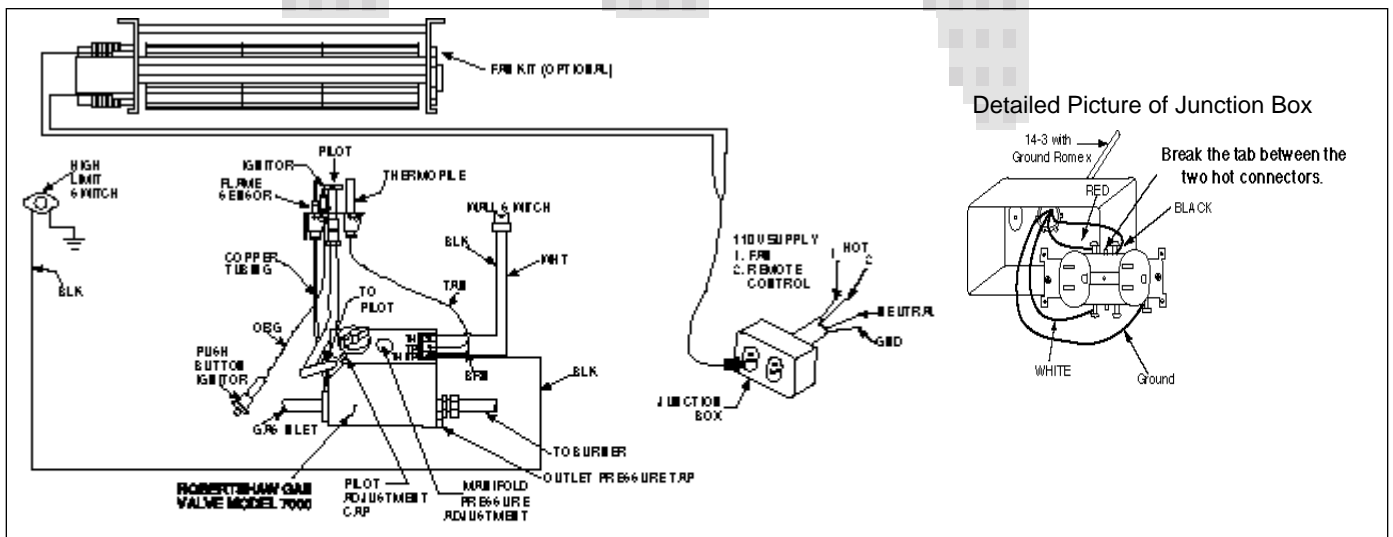

Figure 13
1. Appliance requirements. A wiring diagram is shown in *Figure 13*.